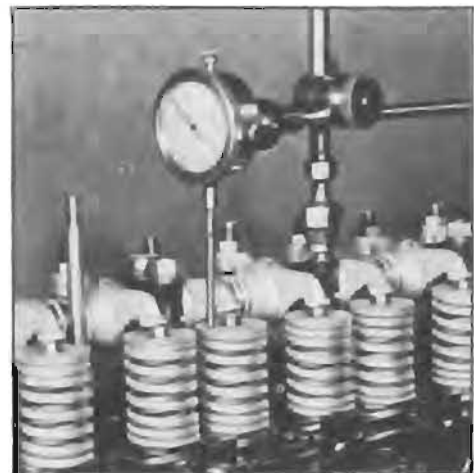

Figure 2-20—Dial Indicator Set to Check Valve Timing
2. Mounting dial indicator to bear against the valve spring cap of the fully closed exhaust valve and set indicator at zero. See figure 2-20.
2. Mount dial indicator to bear against the valve spring cap of the fully closed exhaust valve and set indicator at zero. See figure 2-20.